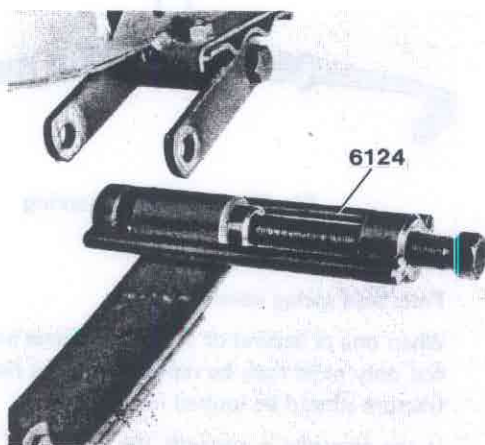

Fig. 72-3. Pressing in a spring bushing
5. Press in the new bushing using only press tool 6124, see Fig. 72-3, and screw in the spring bolt.
3. Press in the bushings with only press tool 6124, see Fig. 72-3.